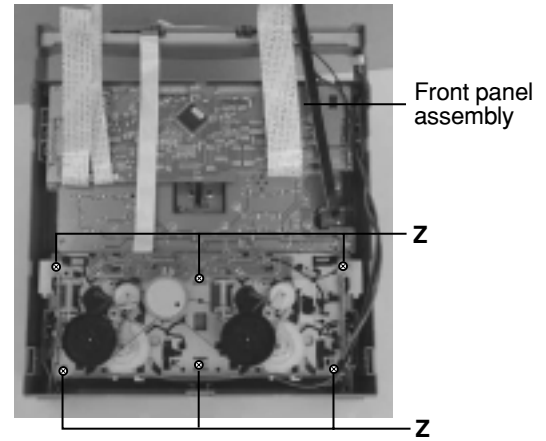

Fig.19
■ **Replacing the CD turn table and removing the motor (See Fig. 19)**
■ Removing the cassette deck mechanism (See Fig.19)
(See Fig.19, 24 and 25)
1. Remove six screws **Z** retaining the cassette deck mechanism. (Fig.19)
(See Fig. 19 and 26)
1. Remove the six screws **Z** that retain the cassette deck mechanism. (Fig.19)
■ Removing the cassette deck heads (See Fig. 19 and 27)
1. Remove six screws **Z** that retain the cassette deck mechanism. (Fig.19)